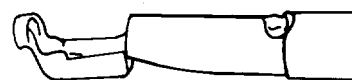

Figure 23. TG-135 Reflector
f. TG-135. Used for heating solder terminations sleeves and shrinking small-diameter tubing. Has to be ordered separately (Figure 23).